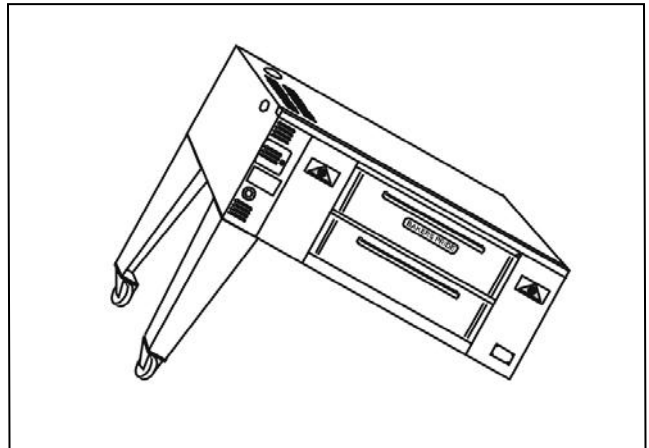

Figure 5
- b) Using proper lifting equipment, lower the oven down so that the two bolted legs rest on the floor (See Fig. 5).